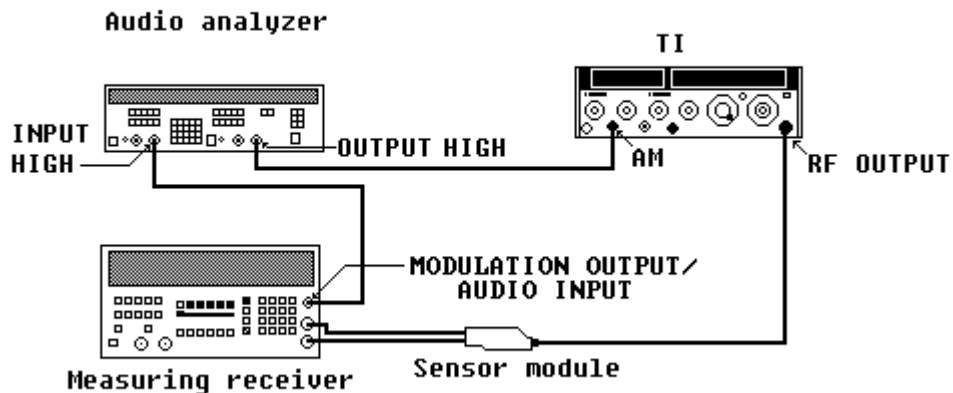

Figure 5. AM test setup.
- (1) Connect equipment as shown in figure 5.
(1) Connect equipment as shown in figure 5.
(2) Position controls as listed in (a) through (m) below.